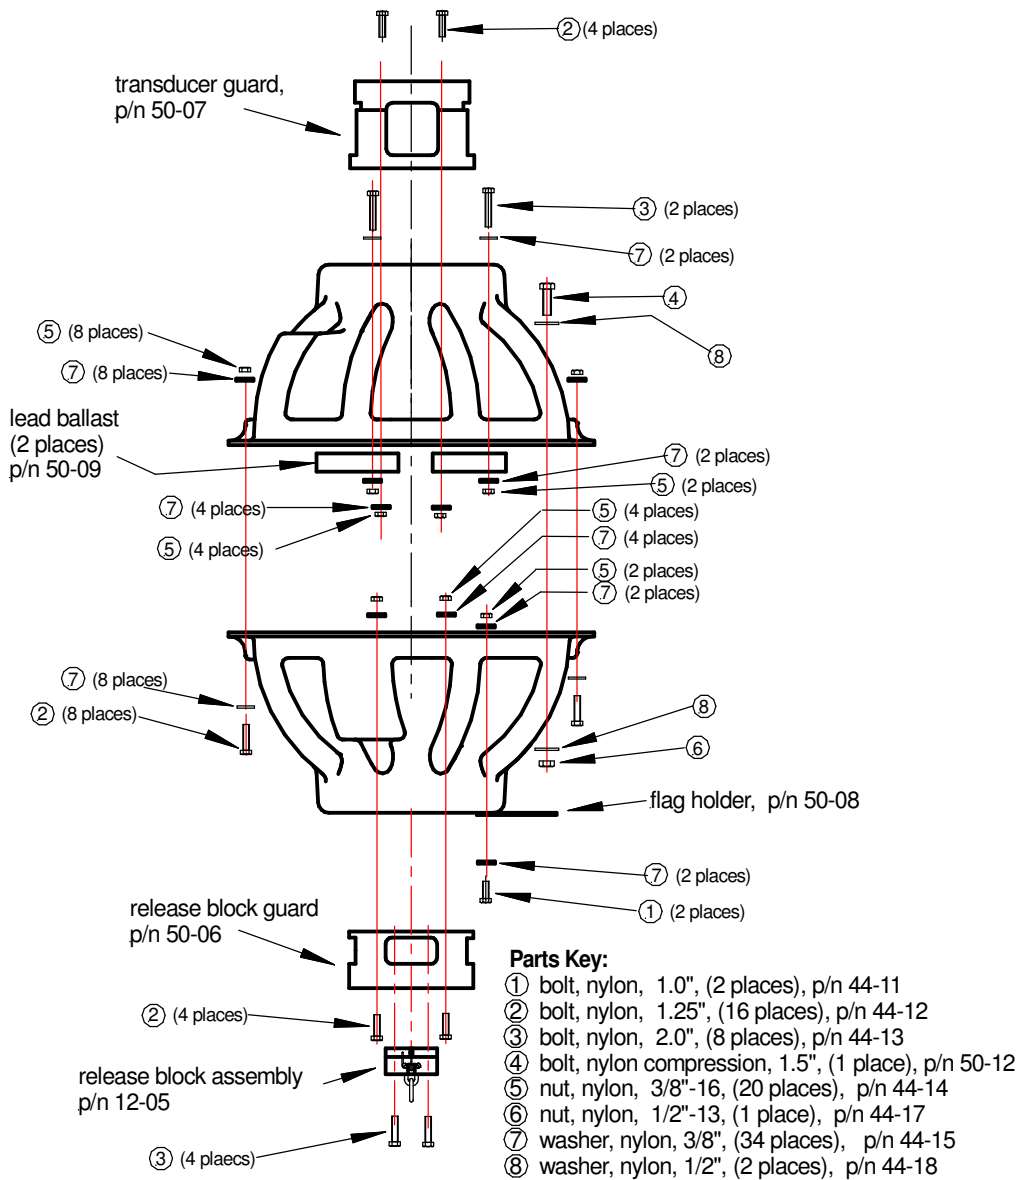

Figure 7-4 IES Hard Hat Assembly Hardware
6. Install the release block as shown in Figure 7-4. Orient the release block so that the anode/cathode connectors are nearest the hole in the hard hat assembly.